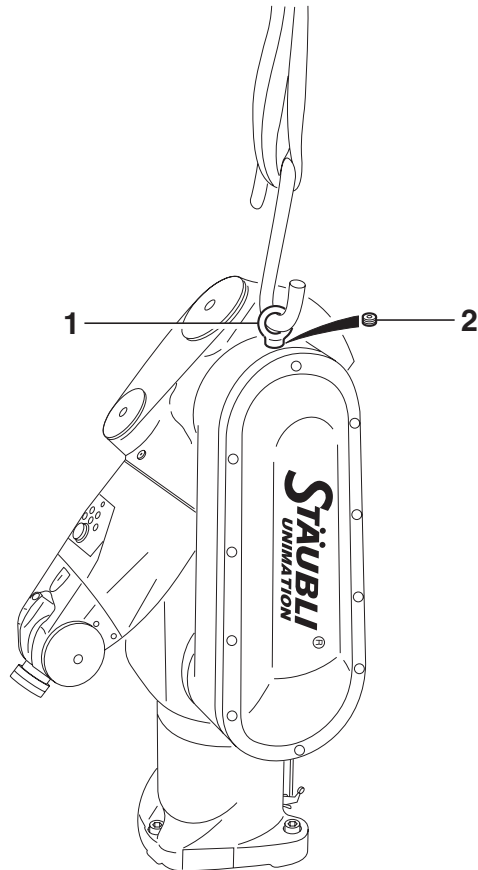

Figure 4.4
4.4.1. INSTALLATION OF ARM ON FLOOR (figure 4.4)
- Unscrew the hoisting ring (1) and install the plug (2).